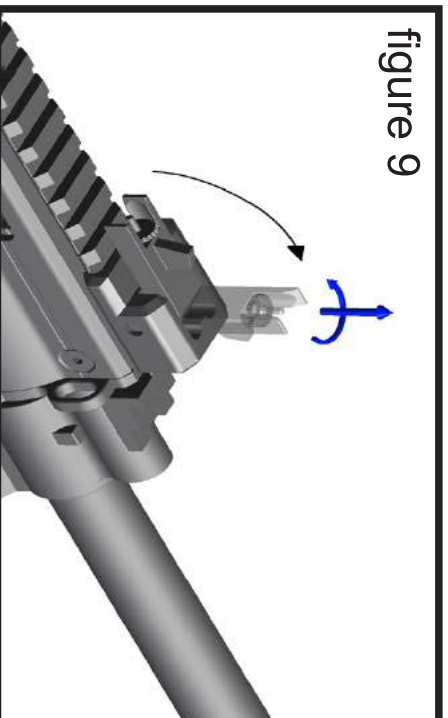

figure 9
1. To retract the front sight just push the front sight down (backwards) (figure 9).